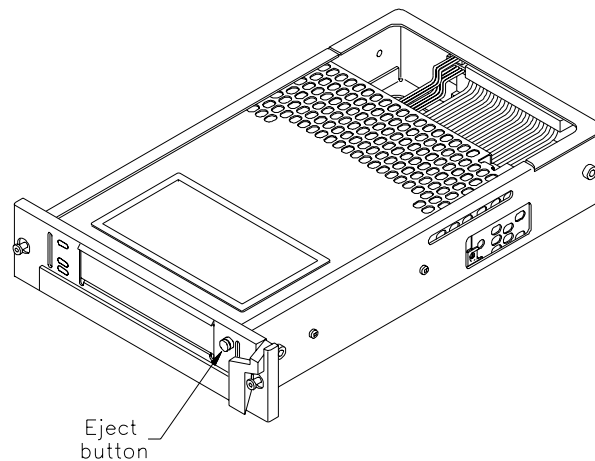

Figure 4-1 Eject button
3. Press the eject button on the tape drive's faceplate. See Figure 4-1.